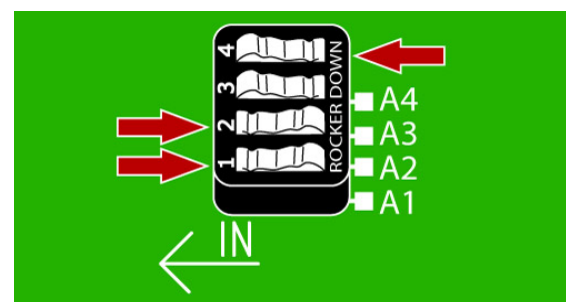

Figure 6. Setting a Dip Switch
Step 2. Locate an arrow printed near the dip switch labeled "IN". To inventory a breaker press the dip switch so that side facing the "IN" arrow is depressed. In Figure 6, A1 and A2 (switch 1 and 2) are inventoried breakers. A3 and A4 (switch 3 and 4) are not in inventory.